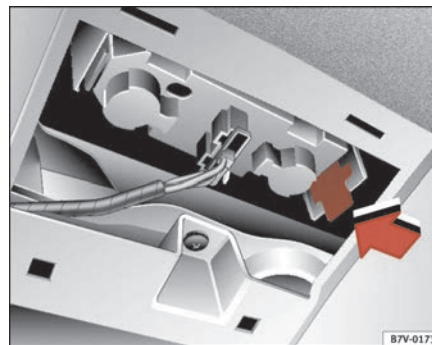

Fig. 166 Lights on tailgate
- Press the elastic tab in the direction of the arrow ⇒ page 247, fig. 166 and remove the lampholder downwards.